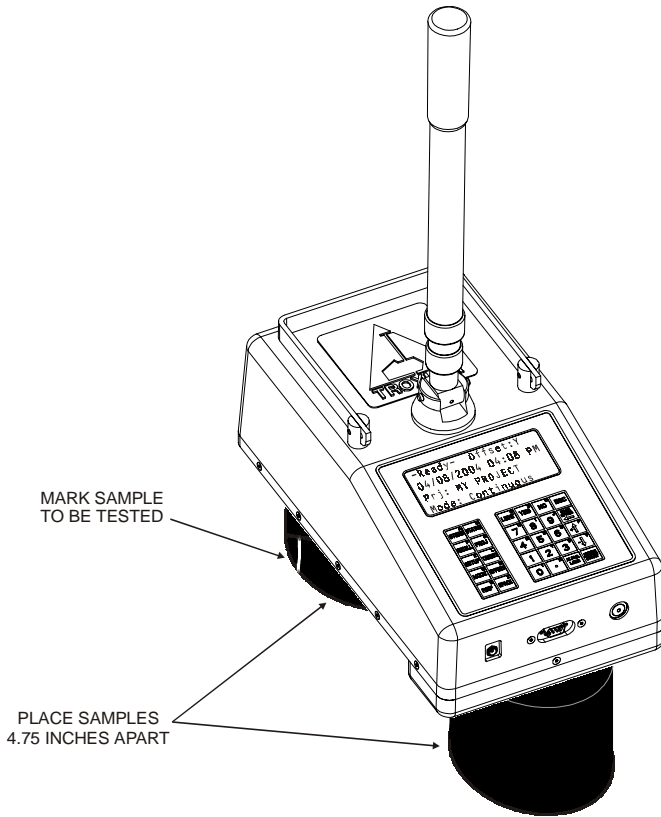

Figure 3–1. Determining the Offset Using Gyrotory Samples
- a. As shown in Figure 3–1, place two samples of the same height approximately 4.75 inches (12 cm) apart. Place a mark on the sample as shown in the figure.